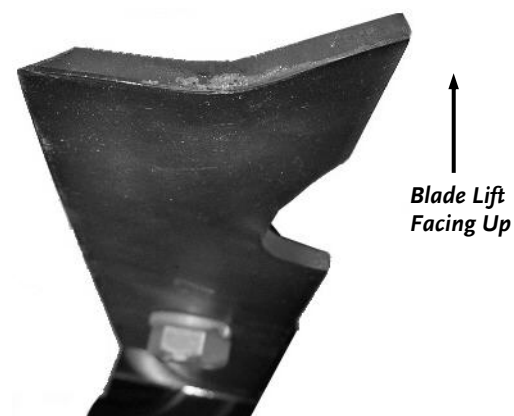

Figure 23
4. Reinstall the Blades with the Lift (turned up) portion facing up (**Figure 23**). Tighten the Blade attaching Bolts securely.